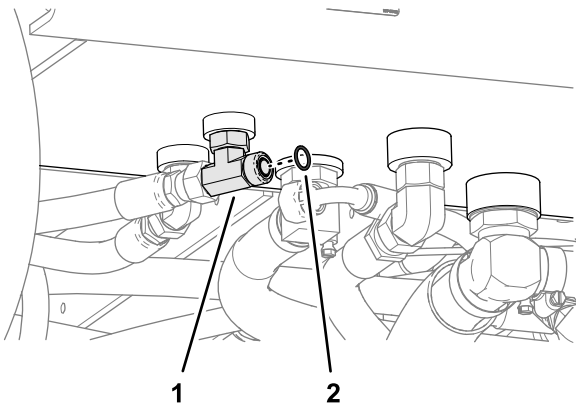

Figure 84
5. Remove the O-ring in the face of the T-fitting of the hydraulic tank (Figure 84).
6. Install a new O-ring 12.4/1.8 mm (0.489/0.070 inch) into the groove of the T-fitting (Figure 84).